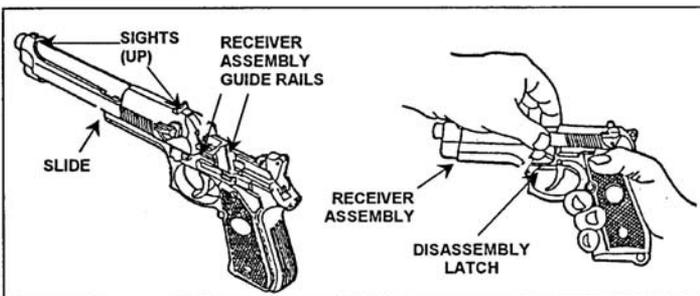

Figure 071-004-0001-8. Final assembly
g. Push until the rear of the slide is a short distance beyond the rear of the receiver assembly and hold. At the same time, rotate the disassembly latch lever upward. A click indicates a positive lock (figure 071-004-0001-8).
(1) Insert the follower into the top coil of the magazine spring. Make sure the notches on the follower and magazine tube are on the same side.
(2) Insert the magazine spring with the follower into the magazine tube.
(3) Turn the magazine bottom up, with its backside against the palm of the hand. Attach and center the floor plate retainer on the bottom spring coil.